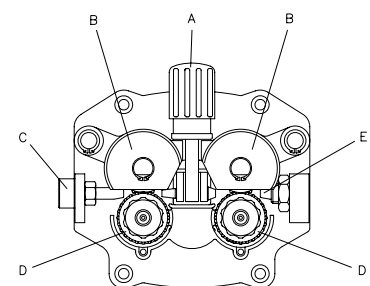

FIG. 5
! Tighten nut to appropriate tightness. Excessive pressure strains the wire feeding motor. Too little pressure does not allow the immediate stop of the wire spool at the end of the welding. Loosen and lower the plastic knob (A) (Fig.5). Open the pressure arm (B) of the feeder. Extract the wire from the torch liner (E).
- When the wire is disconnected, grasp it with pliers so that it cannot exit from the spool. If necessary, straighten it before inserting it in the wire input guide (C). Insert the wire on the lower roll (D) and in the torch liner (E).
- Open the side panel. Loosen and lower the plastic knob (A) and release the pressure arm (B) (Fig. 5). Cut the wire (in the case it is installed) grasp it with pliers so that it cannot exit from the spool and fix it on the suitable hole in the reel. Remove the nozzle and contact tip. Remove with pliers the wire from the hose and torch assembly.